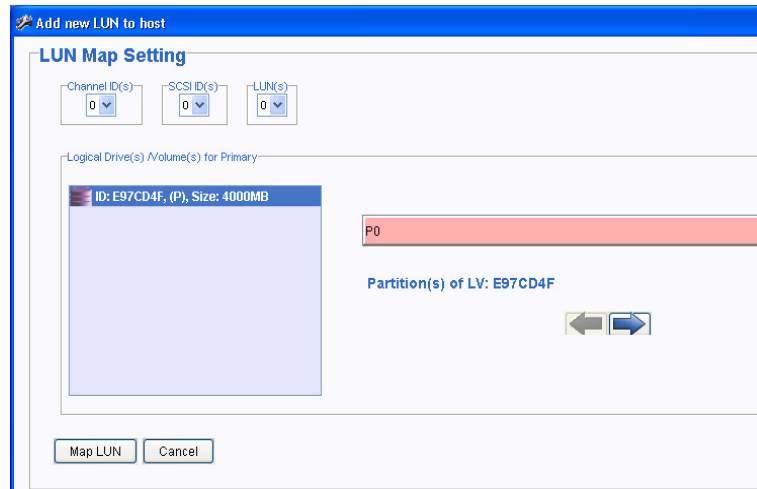

Fig. 10.4 LUN Map Setting Window: Single Partition
- Click on the Map LUN button to complete the process. (See *Figure 10.4*)